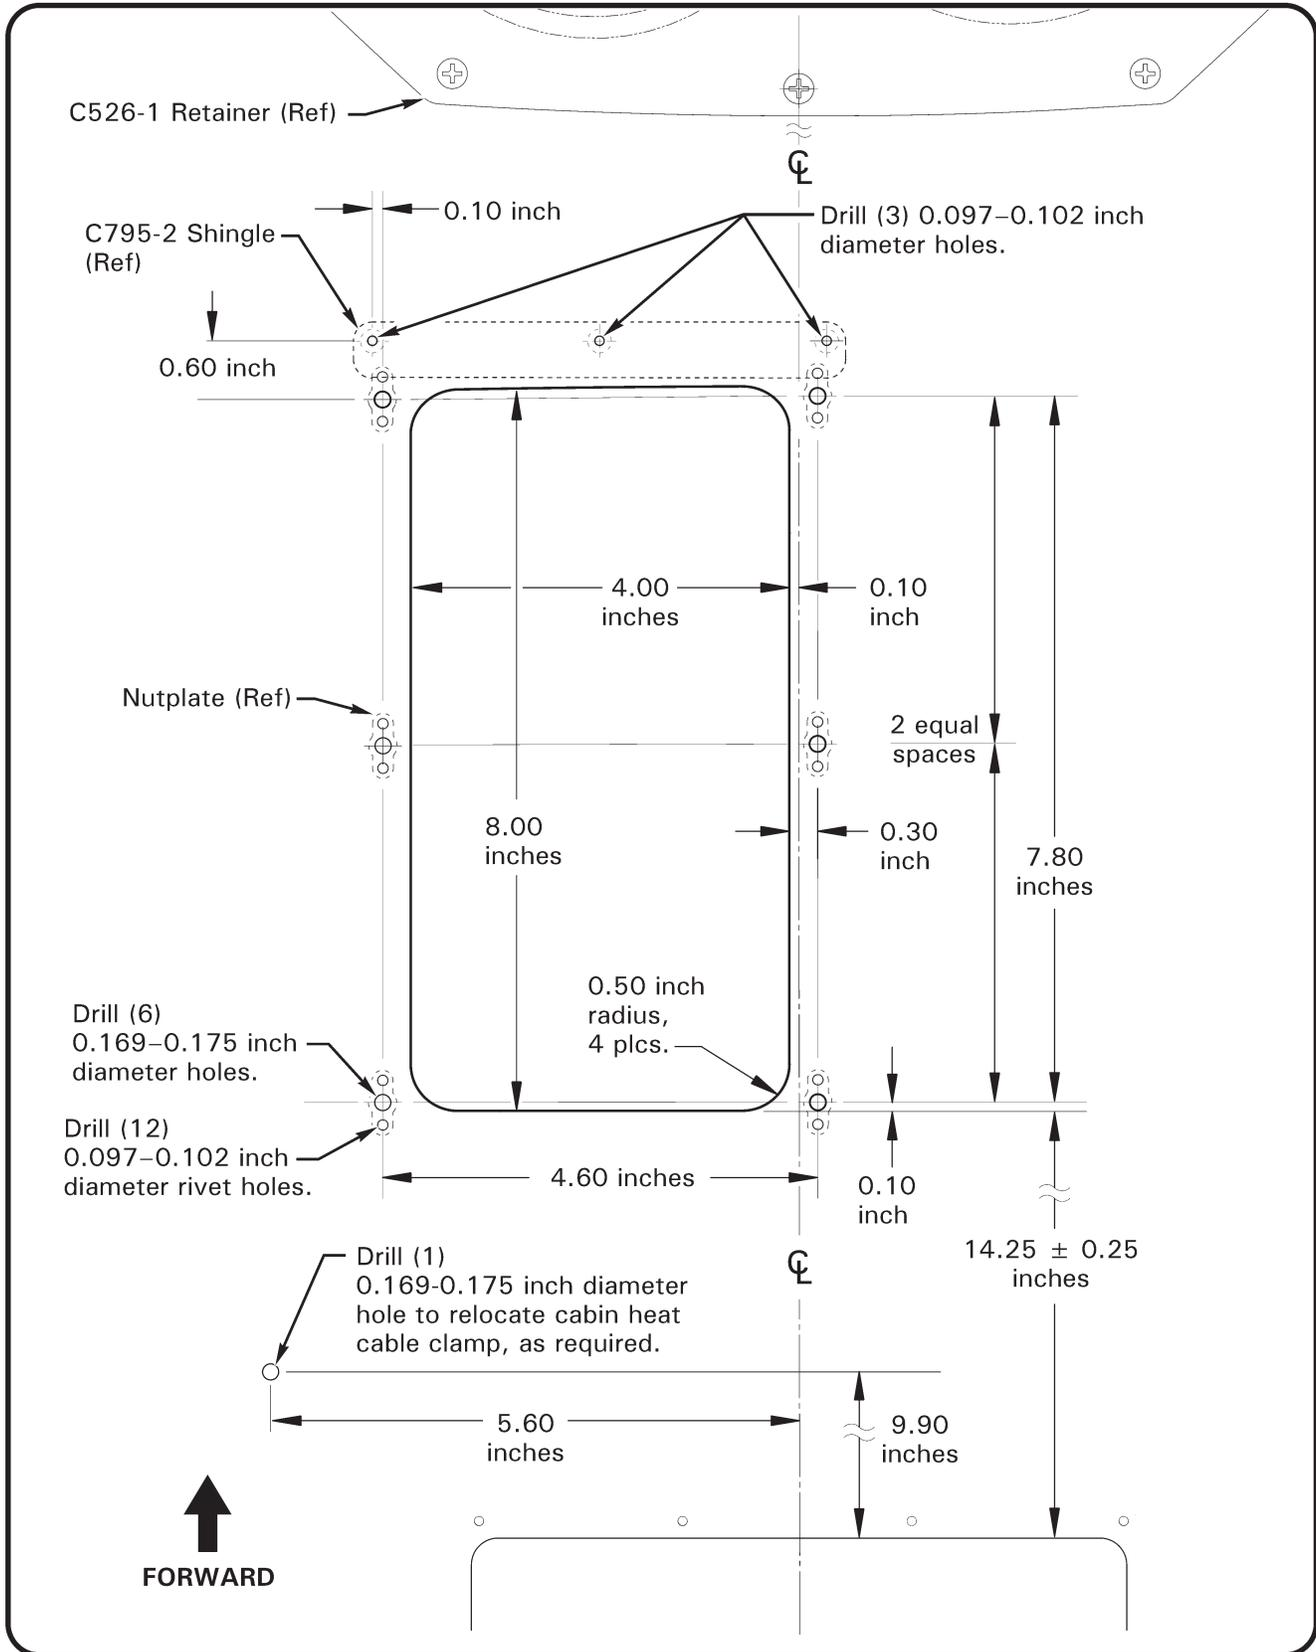

FIGURE 1A R44-series (with aft battery) dimensions for access hole & nutplate locations (view looking up from underneath helicopter)
2. Refer to Figures 1A, 1B, or 1C, as applicable. Lay out dimensions for access hole on chin as shown. Inspect proposed hole area for fasteners and note location(s).
7. Refer to Figures 1A, 1B, or 1C, as applicable. Using C795-1 cover as template and a drill stop, lay out and drill (6) 0.169–0.175 inch diameter holes around access hole as shown.
8. Layout C795-2 shingle installation rivet holes as shown in Figures 1A, 1B, or 1C. Position shingle on chin at planned rivet holes and verify shingle will be centered on, and overlap cover. Using a drill stop, drill (3) 0.097–0.102 inch diameter holes.
- ii. Locate and drill (1) 0.169–0.175 inch diameter hole as shown in Figure 1A.